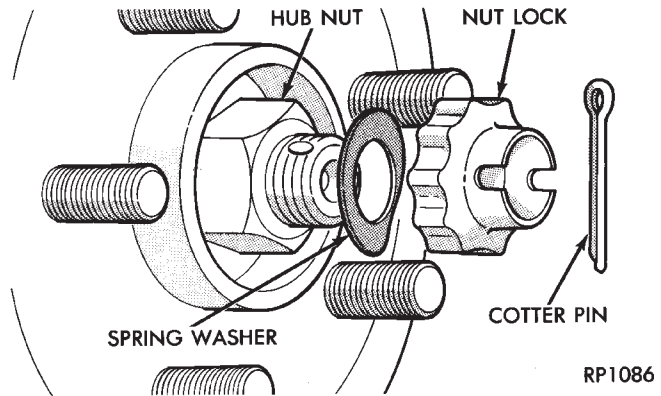

Fig. 12 Cotter Pin, Nut Lock
(1) Remove cotter pin, nut lock, and spring washer (Fig. 12) from the front stub axle.